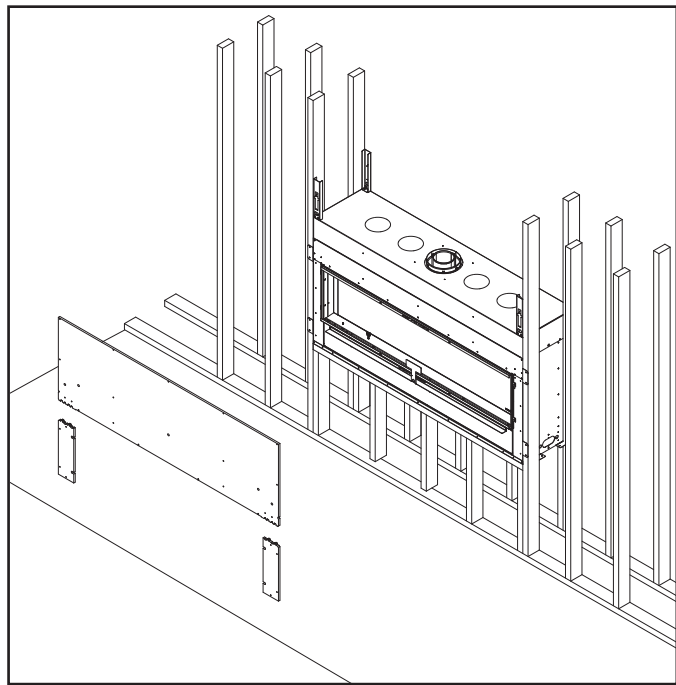

Figure 6.9 Install Factory-Included Non-Combustible Facing Material
- Attach top board to the framing members with regular sheetrock screws or nails. See Figure 6.9.